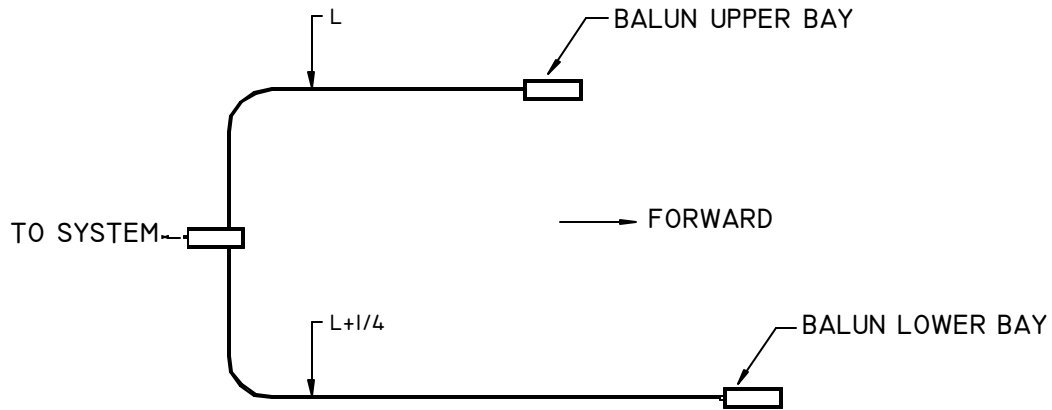

Figure 6
- a. Attach longer harness to the extended (lower) boom and shorter harness to the upper boom. For clarity see Figure 6.